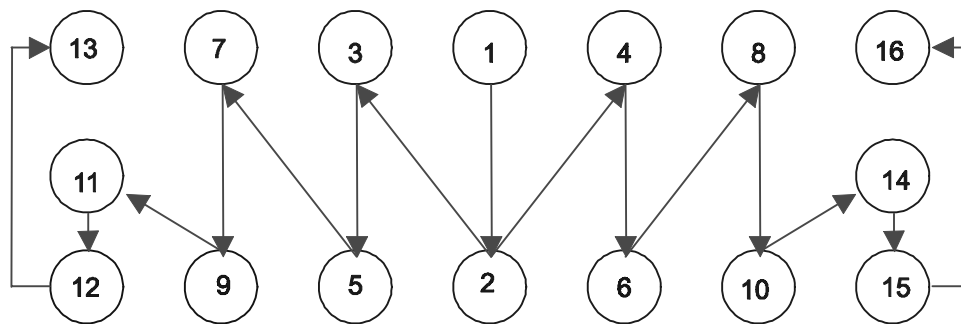

Figure 4 - Torque Pattern
- b. Tighten all nuts per Figure 4 - Torque Pattern, to 35 ft-lb torque. After the initial torque has been applied retorque them to 50 ft-lb, again using the pattern shown in Figure 4. The permissible range of final torque values are as follows:
- d. After the coil has been leak tested and found to be free from leaks, let it sit for 24 hours. Retorque to 50 ft-lb per Figure 4 - Torque Pattern.